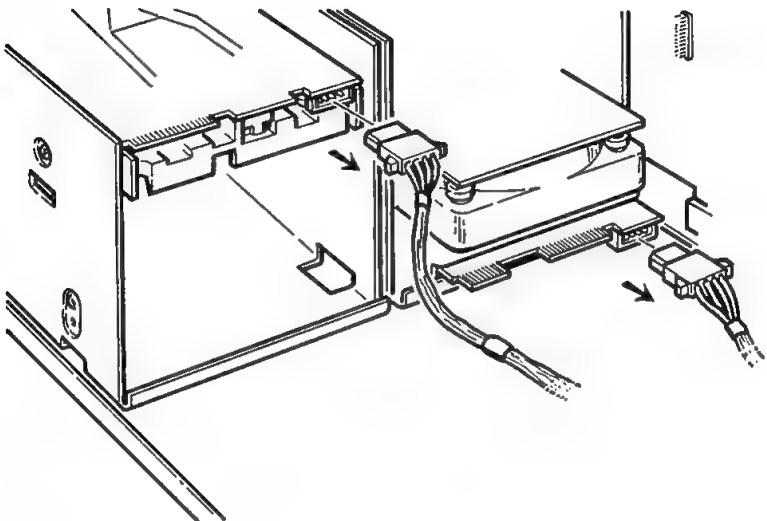

Figure 3-8. Drive Power Connections
5. Disconnect power cables from the disk drives, as shown in Figure 3-8.